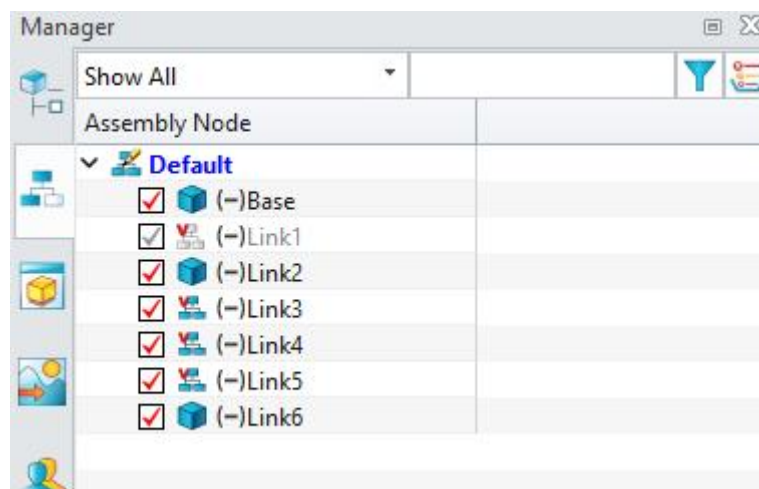

Figure 8-7: Uncheck Link1
- Hide or uncheck "component Link1". (Figure 8-7)